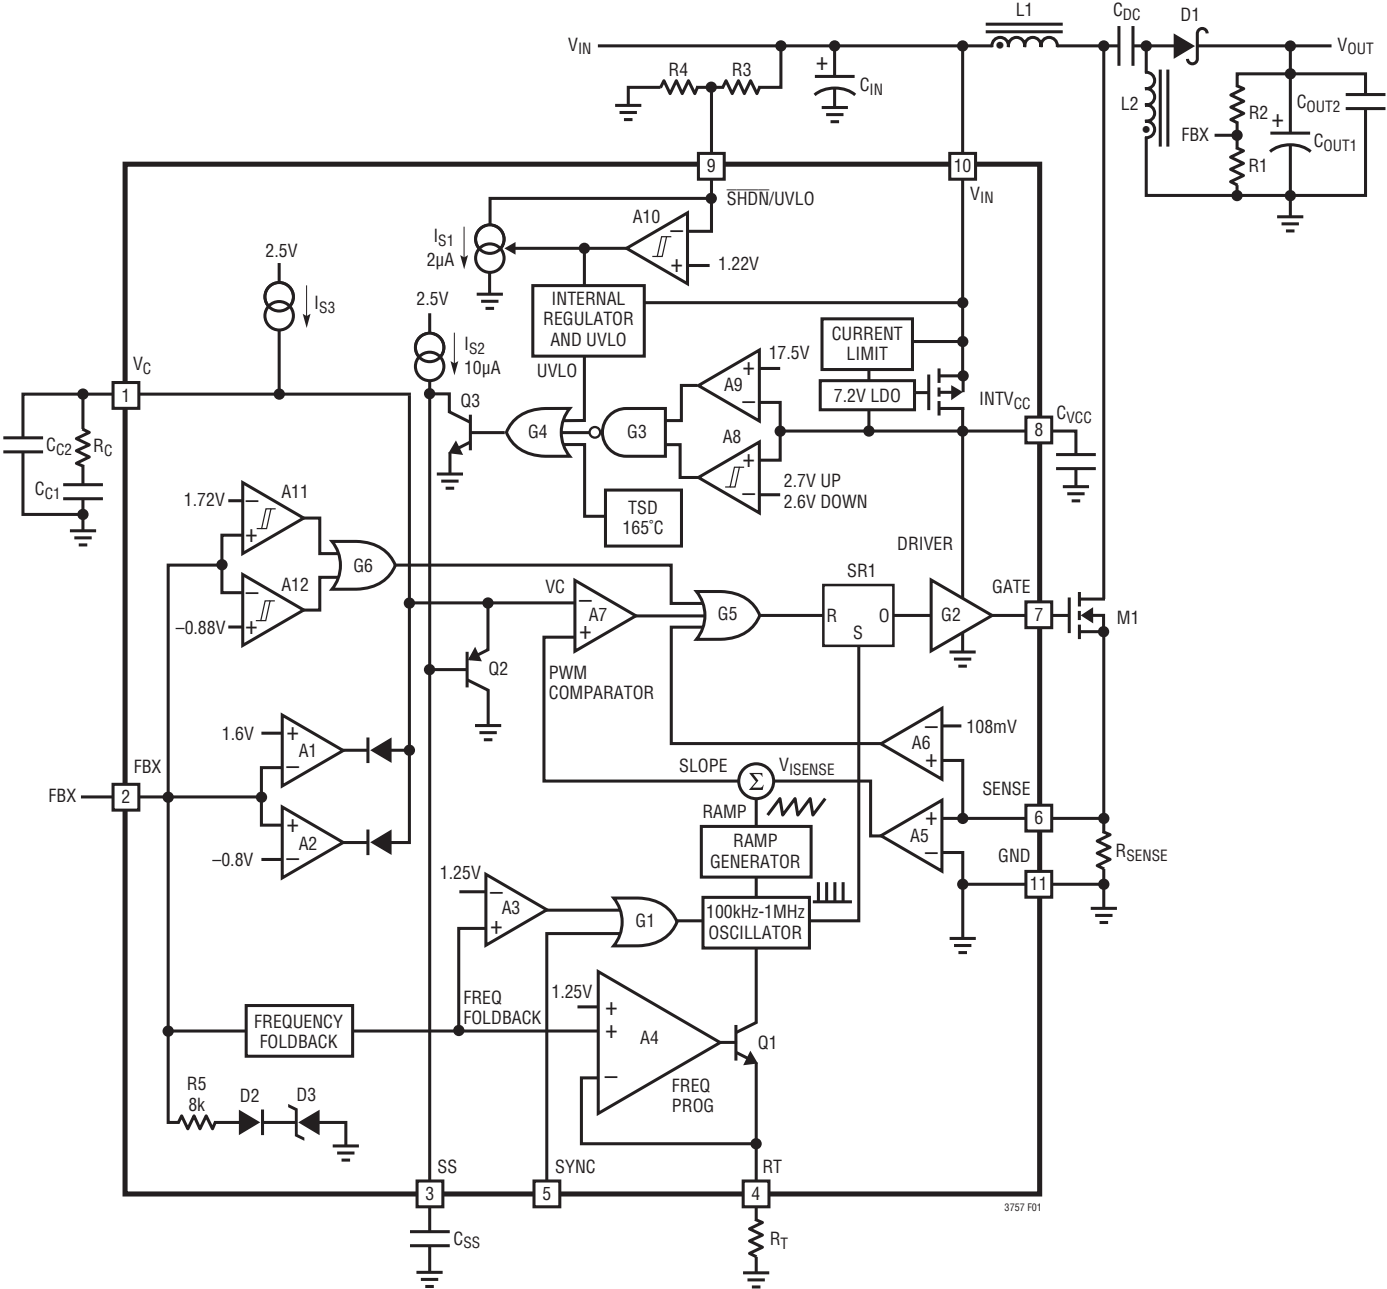

Figure 1. LT3757 Block Diagram Working as a SEPIC Converter
The LT3757 uses a fixed frequency, current mode control scheme to provide excellent line and load regulation. Operation can be best understood by referring to the Block Diagram in Figure 1.
The LT3757 is capable of generating either positive or negative output voltage with a single FBX pin. It can be configured as a boost, flyback or SEPIC converter to generate positive output voltage, or as an inverting converter to generate negative output voltage. When configured as a SEPIC converter, as shown in Figure 1, the FBX pin is pulled up to the internal bias voltage of 1.6V by a voltage divider (R1 and R2) connected from V_{OUT} to GND. Comparator A2 becomes inactive and comparator A1 performs the inverting amplification from FBX to V_C . When the LT3757 is in an inverting configuration, the FBX pin is pulled down to -0.8V by a voltage divider connected from V_{OUT} to GND. Comparator A1 becomes inactive and
The purpose of this current is to allow the user to program the rising hysteresis. The Block Diagram of the comparator and the external resistors is shown in Figure 1. The typical falling threshold voltage and rising threshold voltage can be calculated by the following equations:
An internal, low dropout (LDO) voltage regulator produces the 7.2V INTV_{CC} supply which powers the gate driver, as shown in Figure 1. If a low input voltage operation is expected (e.g., supplying power from a lithium-ion battery or a 3.3V logic supply), low threshold MOSFETs should be used. The LT3757 contains an undervoltage lockout comparator A8 and an overvoltage lockout comparator A9 for the INTV_{CC} supply. The INTV_{CC} undervoltage (UV) threshold is 2.7V (typical), with 100mV hysteresis, to ensure that the MOSFETs have sufficient gate drive voltage before turning on. The logic circuitry within the LT3757 is also powered from the internal INTV_{CC} supply.
The choice of operating frequency may be determined by on-chip power dissipation, otherwise it is a trade-off between efficiency and component size. Low frequency operation improves efficiency by reducing gate drive current and MOSFET and diode switching losses. However, lower frequency operation requires a physically larger inductor. Switching frequency also has implications for loop compensation. The LT3757 uses a constant-frequency architecture that can be programmed over a 100kHz to 1000kHz range with a single external resistor from the R_T pin to ground, as shown in Figure 1. The R_T pin must have an external resistor to GND for proper operation of the LT3757. A table for selecting the value of R_T for a given operating frequency is shown in Table 1.
The output voltage (V_{OUT}) is set by a resistor divider, as shown in Figure 1. The positive and negative V_{OUT} are set by the following equations:
In the applications where V_{OUT} is pulled up by an external positive power supply, the FBX pin is also pulled up through the R2 and R1 network. Make sure the FBX does not exceed its absolute maximum rating (6V). The R5, D2, and D3 in Figure 1 provide a resistive clamp in the positive direction. To ensure FBX is lower than 6V, choose sufficiently large R1 and R2 to meet the following condition:
The LT3757 addresses this mechanism with the SS pin. As shown in Figure 1, the SS pin reduces the power MOSFET current by pulling down the V_C pin through Q2. In this way the SS allows the output capacitor to charge gradually toward its final value while limiting the start-up peak currents. The typical start-up waveforms are shown in the Typical Performance Characteristics section. The inductor current I_L slewing rate is limited by the soft-start function.
The optimum values depend on the converter topology, the component values and the operating conditions (including the input voltage, load current, etc.). To compensate the feedback loop of the LT3757/LT3757A, a series resistor-capacitor network is usually connected from the V_C pin to GND. Figure 1 shows the typical V_C compensation network. For most applications, the capacitor should be in the range of 470pF to 22nF, and the resistor should be in the range of 5k to 50k. A small capacitor is often connected in parallel with the RC compensation network to attenuate the V_C voltage ripple induced from the output voltage ripple through the internal error amplifier. The parallel capacitor usually ranges in value from 10pF to 100pF. A practical approach to design the compensation network is to start with one of the circuits in this data sheet that is similar to your application, and tune the compensation network to optimize the performance. Stability should then be checked across all operating conditions, including load current, input voltage and temperature.